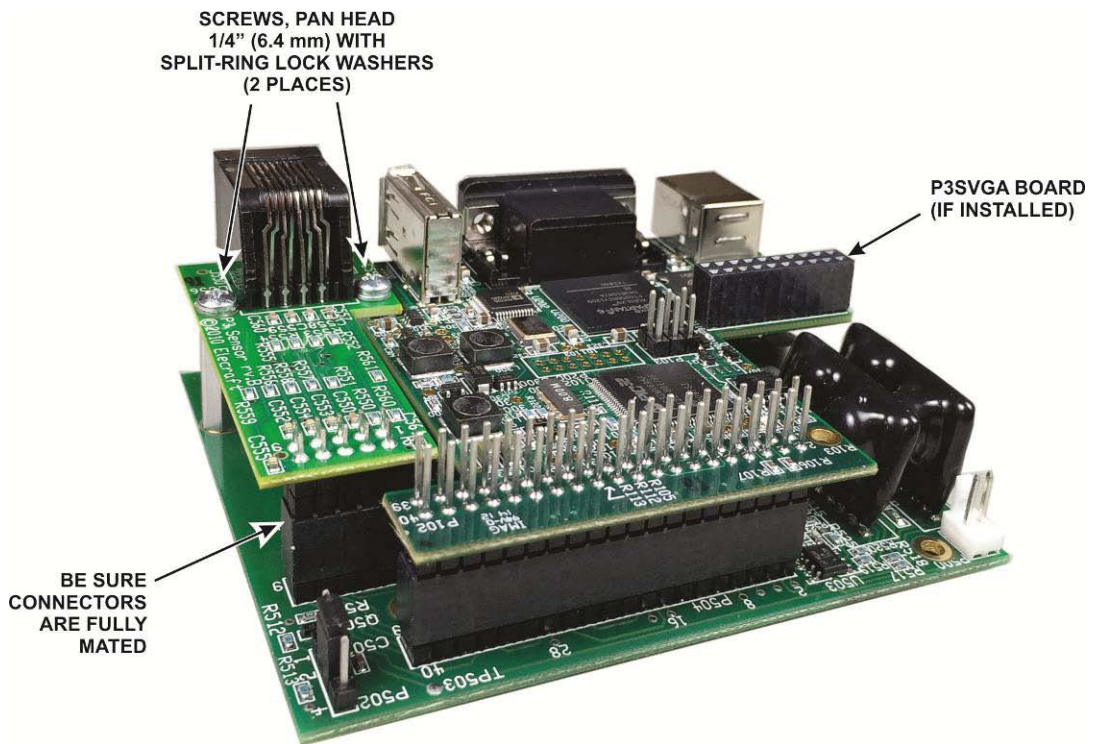

Figure 17. Mounting the Tx Monitor Board on the I/O Board.
- Mount Tx Monitor board on the I/O board as shown in Figure 17.